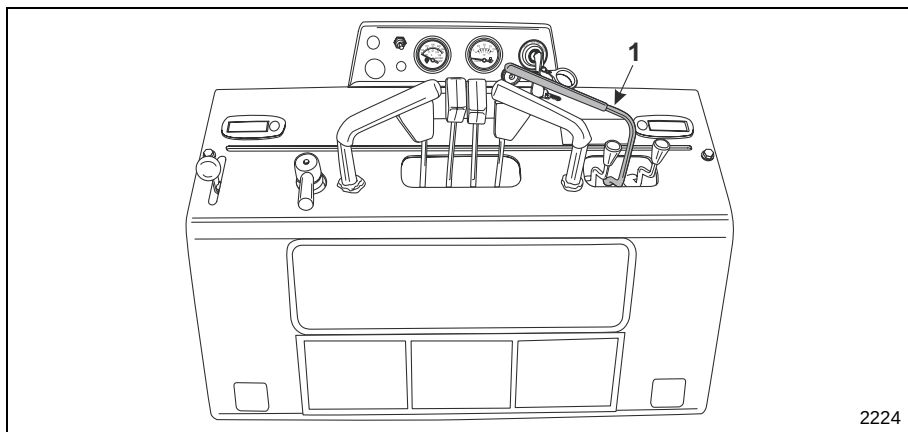

Figure 11 Auxiliary Control
1. With the attachment raised off the ground, move the AUXILIARY/OPERATOR PRESENCE control lever (Items 1, **Figure 11**) to either the FORWARD or REVERSE position to activate the trencher.